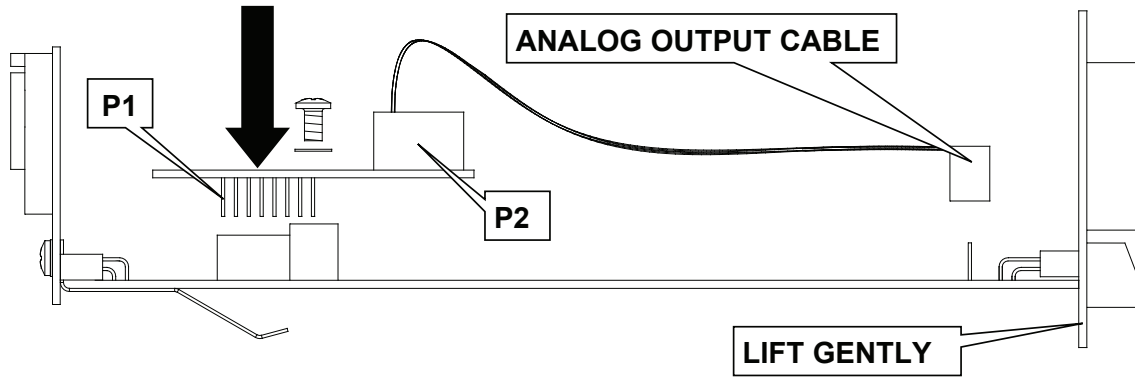

Figure No. 7
4. Attach the keypad ribbon cable to P6, and then slide the main board assembly into the enclosure until the rear panel meets the back edge of the enclosure. See Figure No. 7.